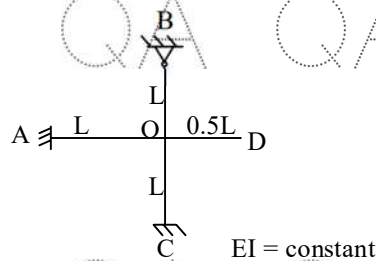

Figure 1
b) If the point 'O' is assumed to be rigid as shown in figure 1, find the rotational stiffness of the frame at point O. [3]